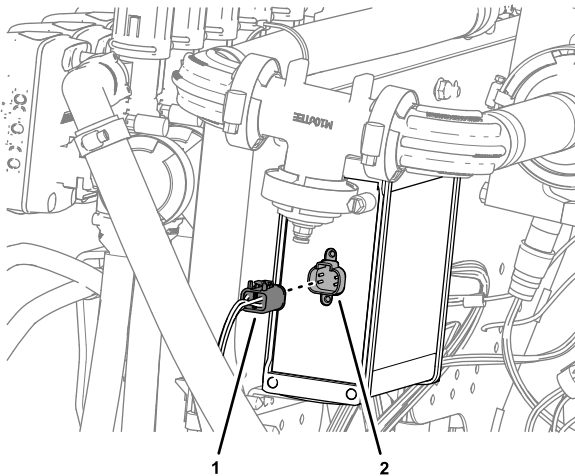

Figure 135
4. Insert the 4-socket connector labeled TO ASC 10 into the 4-pin connector of the ASC 10 spray controller (Figure 135).